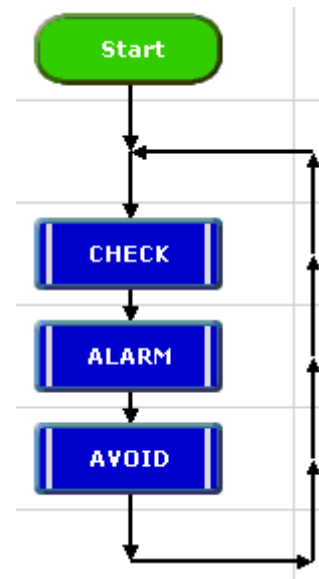

Fig 4.8. Main routine.
1. The main routine is created as a series of Do Procedure commands as shown in fig 4.8.